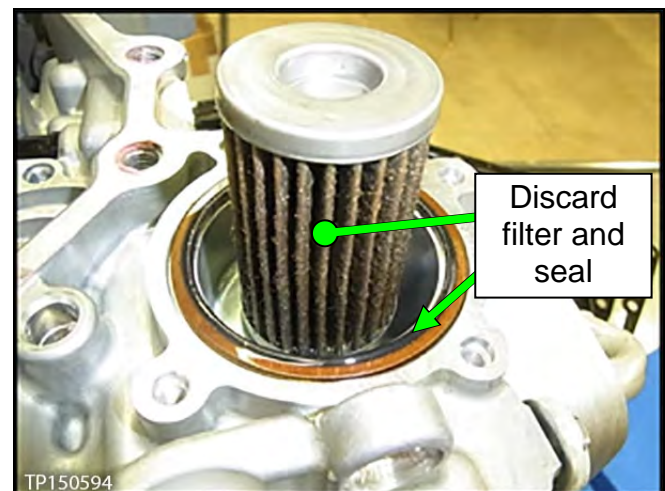

Figure 43
2. Remove the CVT fluid filter with grommet seal and O-ring seal (see Figure 43).
- Figure 43 does not show the grommet seal. It is fitted to the bottom end of the filter.